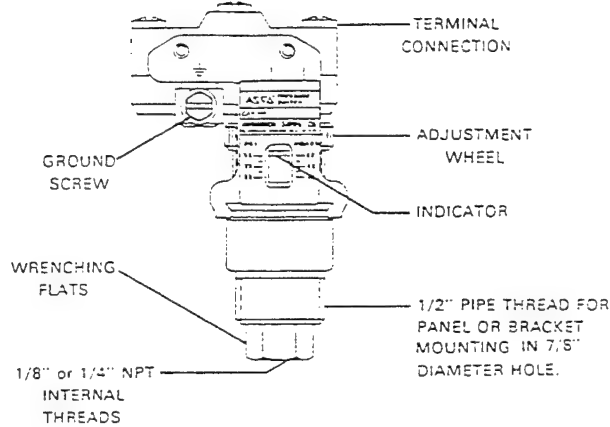

Figure 1. Series H Pressure Switch
- Panel Mounted Construction: These solenoids are specifically designed to be panel mounted by the customer through a panel having a .062 to .093 maximum wall thickness. Refer to Figure 1 and section on "Installation of Panel Mounted Solenoid".